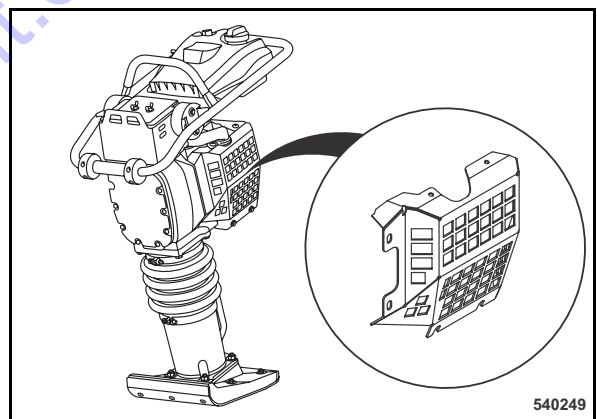

Fig. 59
- Remove the protection grid on the left hand side of the engine ((Fig. 59)).